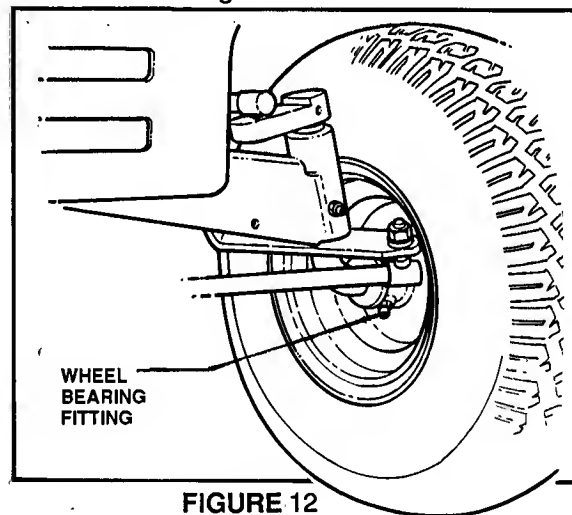

FIGURE 12
- FRONT WHEEL BEARINGS: Lubricate bearings through the fitting on hub of each front wheel. See Figure 12.